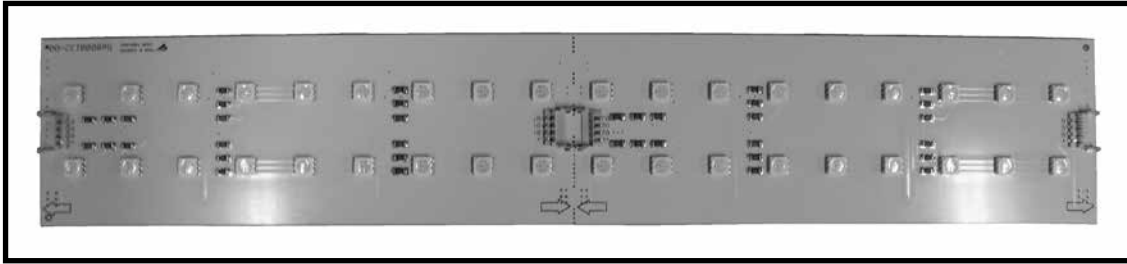
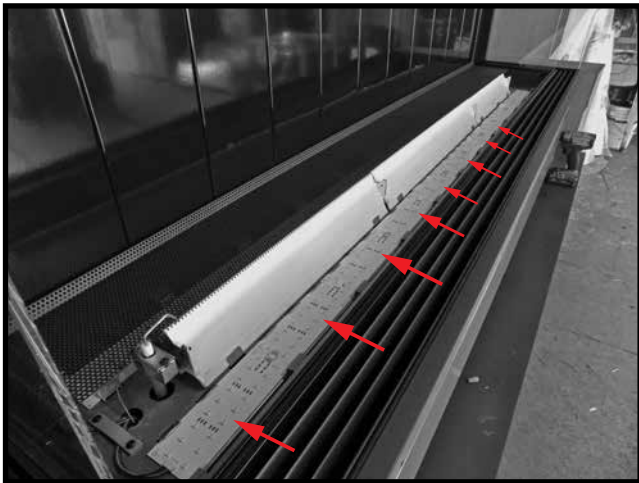
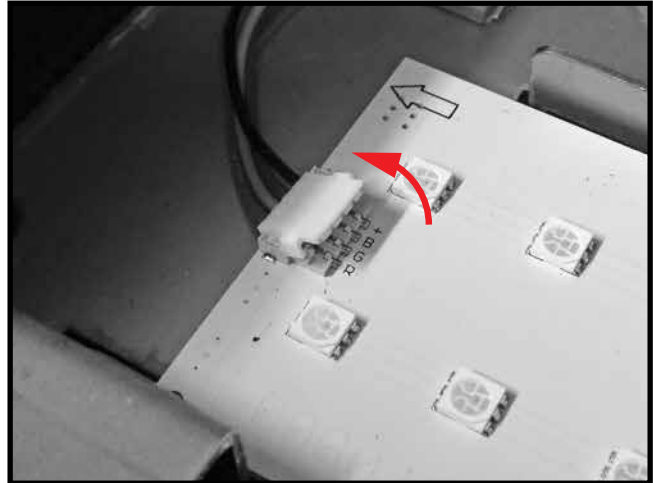

Figure 55: Individual LED section.
Figure 56: LED individual sections joined together.
Figure 57: LED connector.
There are two rows of LED lights in this fire feature, one row on each side of the burner. Each row of LED lights is made of individual LED sections (Figure 55) which can be joined together using bridge connectors to achieve the desired row length (Figure 56). Each row of sections also has its own main electrical connector (Figure 57).
4. Disconnect the main electrical connection located on the left hand side of the fire feature by lifting the connector up as shown in Figure 57.
9. Reconnect the main electrical connector as shown in (Figure 57).